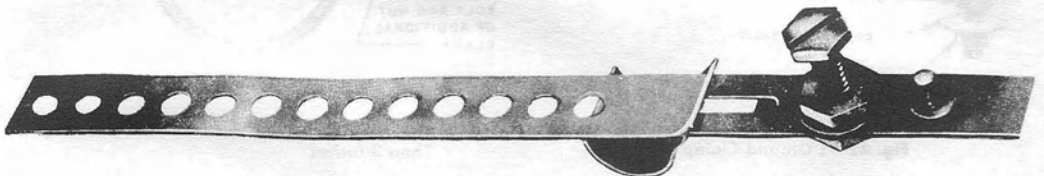

Fig. 40—B Station Ground Clamp
- 6.19 The B station ground clamp (Fig. 40) is installed as follows: